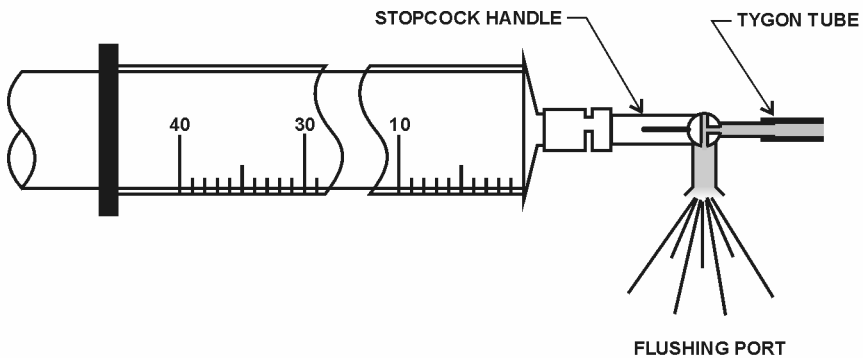

Figure 58 – Sampling Syringe (Flushing).
- ◆ Install the glass sample syringe on the short piece of $\frac{1}{8}$ -inch tubing. Turn the stopcock handle on the syringe so that the handle points toward the syringe. **Note: The handle always points toward the closed port.** The other two ports are open to each other. See figure 58.